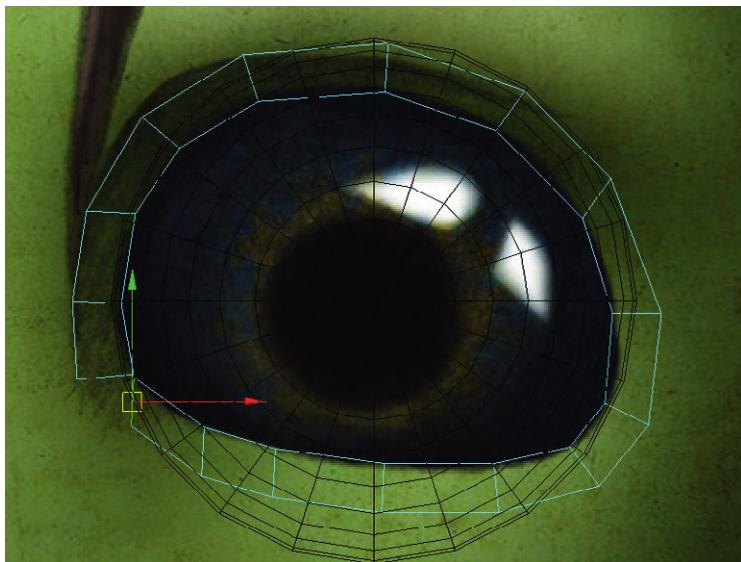

FIG 4.9 Continuing all the way around the eye with extruded edges.
Step 19: Repeat all the way around the eye. For each extrusion, remember to both move and rotate the edge (Fig. 4.9). Be sure to match the line of the eyelid as it touches the eye.